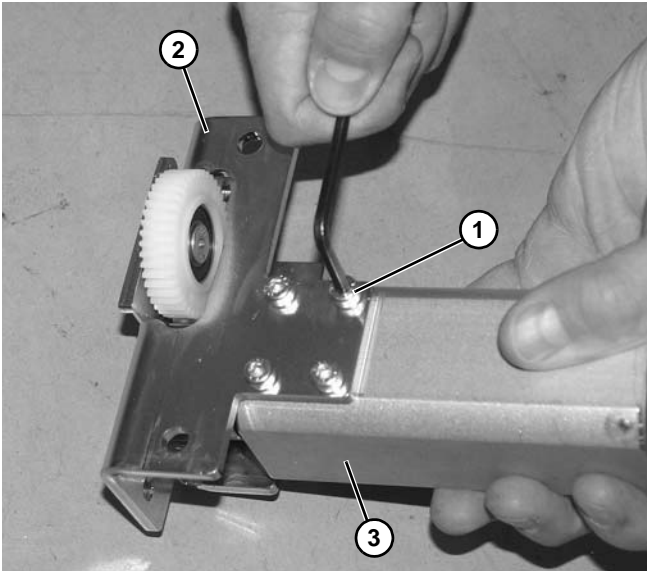

Figure 78
6. Remove four screws (**Figure 78, item 1**) and remove motor mounting bracket (**Figure 78, item 2**) from motor (**Figure 78, item 3**).